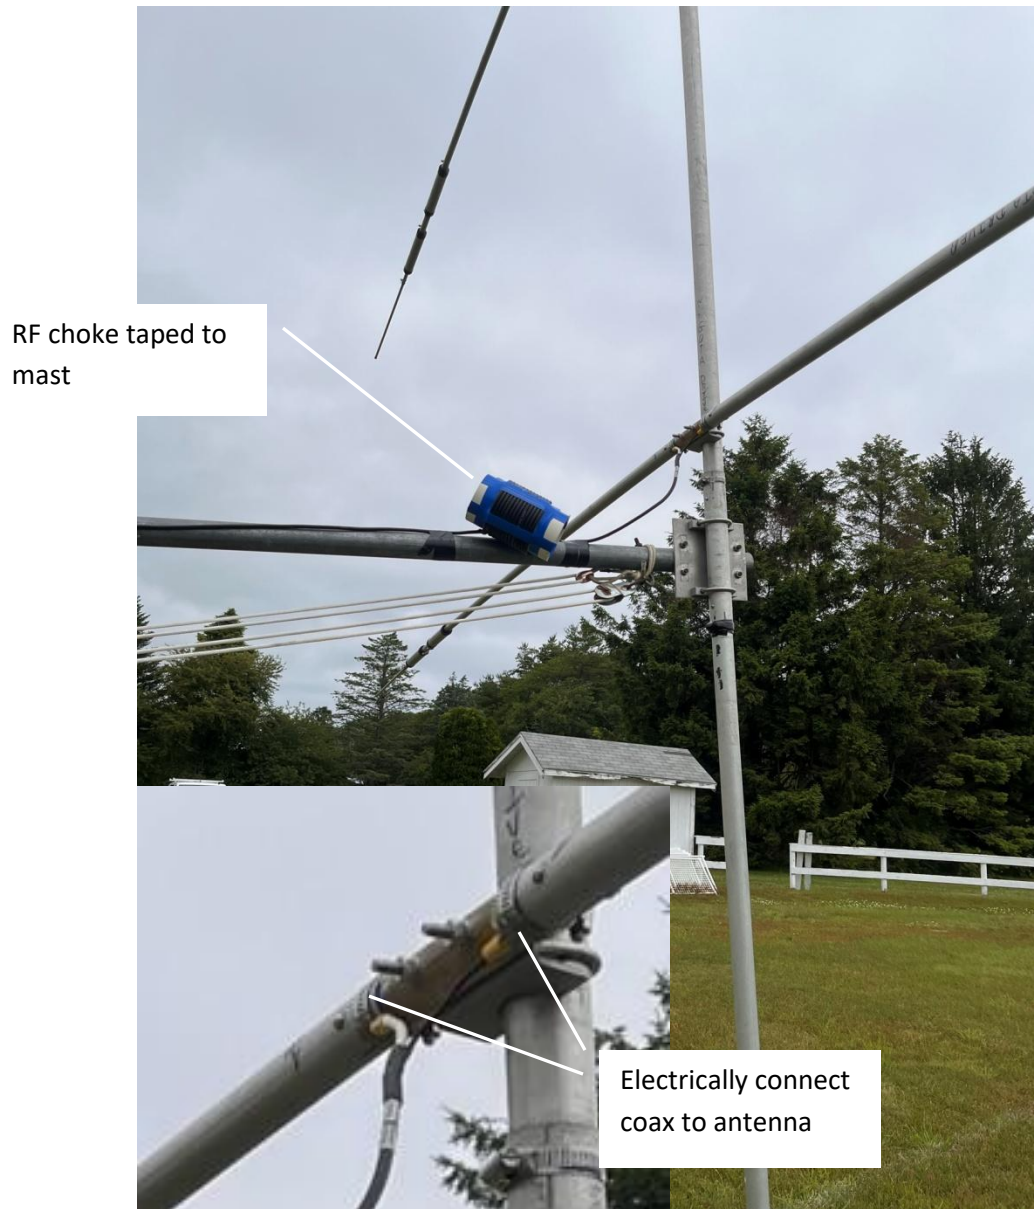

Figure 20: Coax and RF choke installed on antenna and taped to mast
- Once the tower is securely supported on the sawhorse a ladder is used to allow a person to access the end of the mast. With the help of two other people, the antenna is picked up and rotated so that the boom-mounting bracket can be slid over the end of the mast. This operation rights the antenna and the traps will be facing the downward direction of the tower. The boom-mounting “U” bolts are tightened without crushing the pipe. See Figure 20